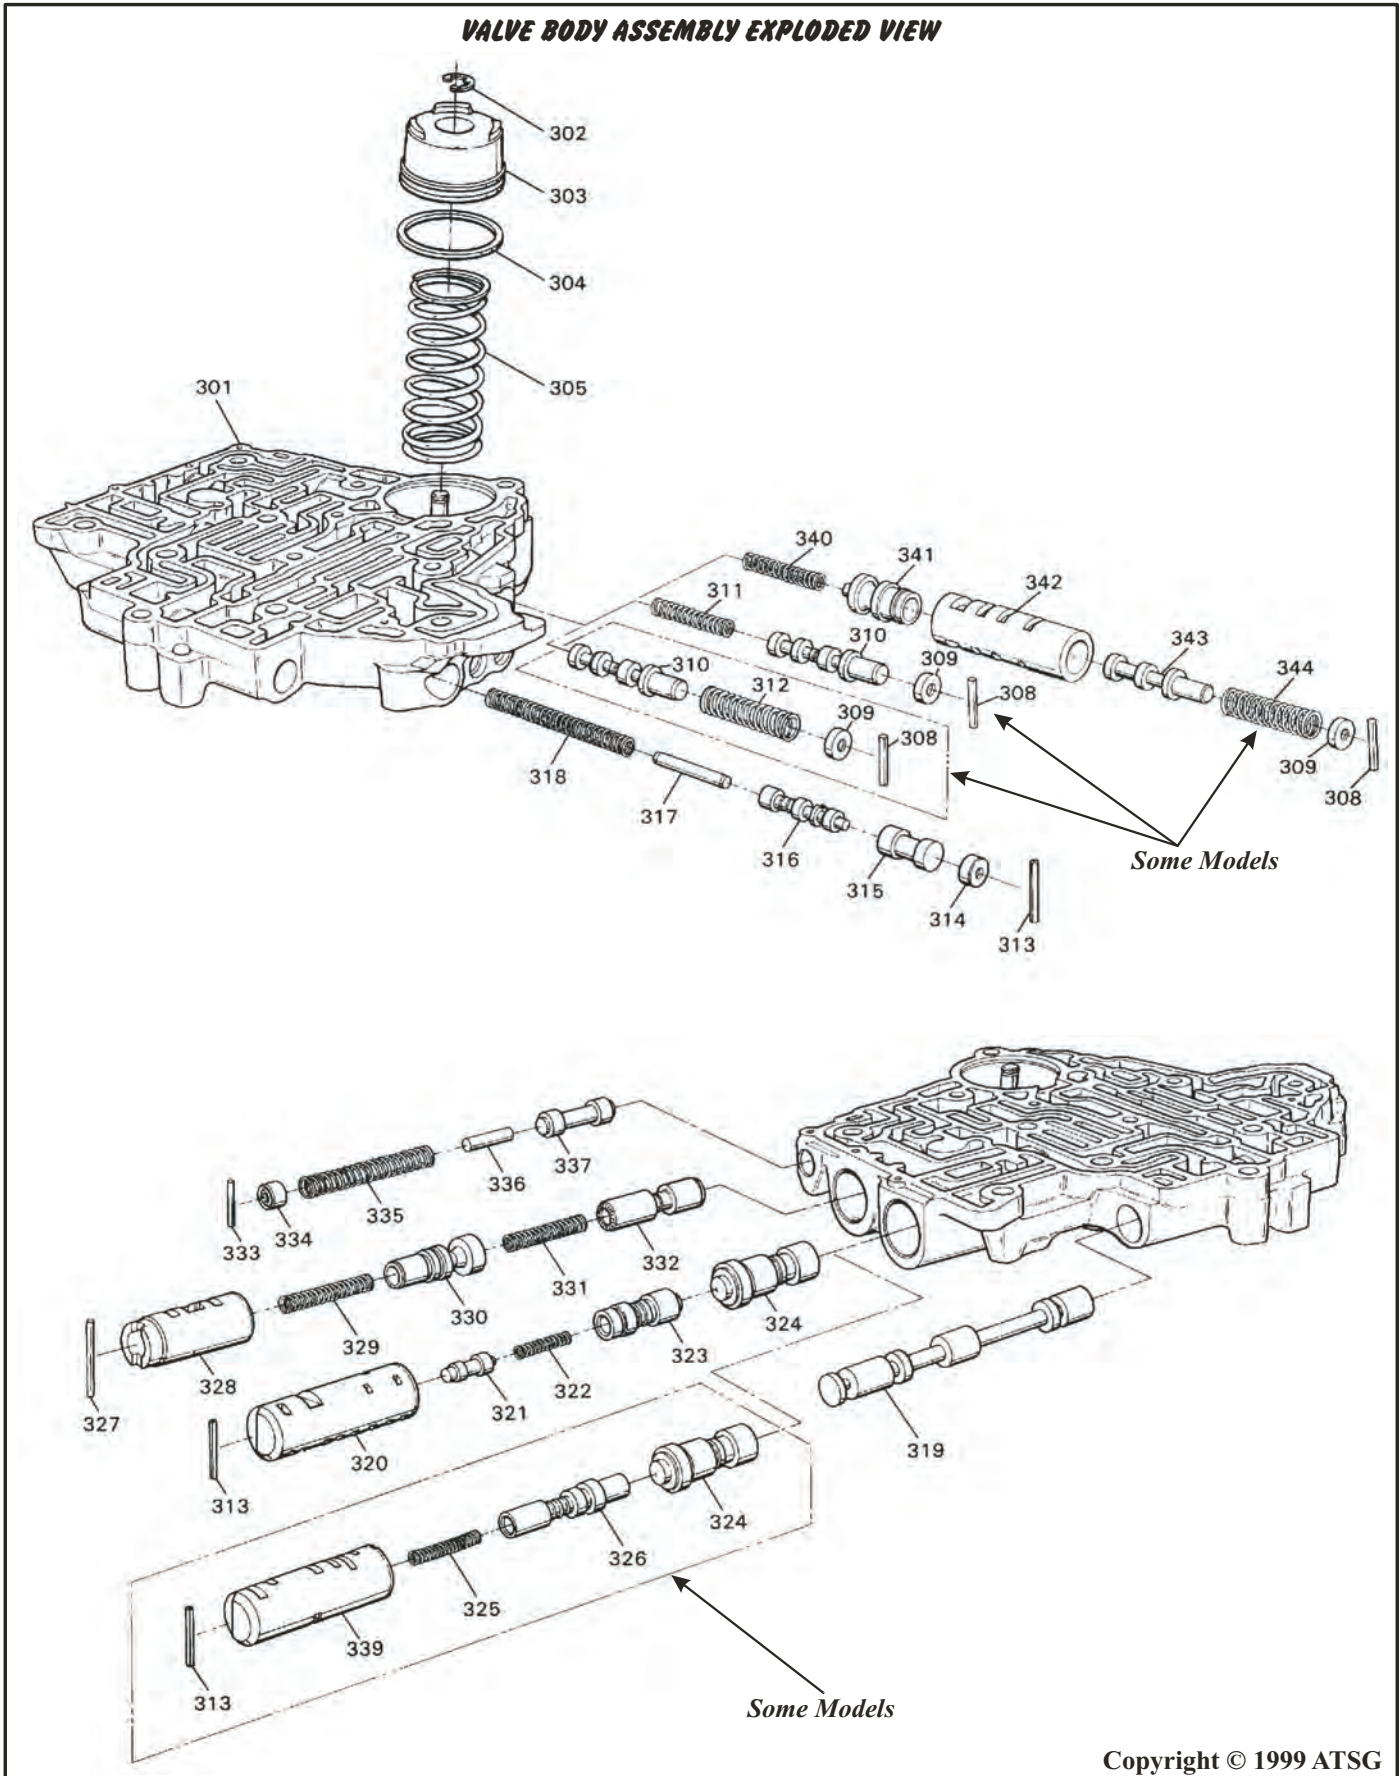

Figure 100
LEGEND FOR FIGURE 100
2. Remove and discard the 2-3 accumulator piston seal ring (See Figure 100).
3. Remove the 2-3 accumulator piston spring as shown in Figure 100.
7. Remove the valve trains one at a time and lay them out on a clean surface in the exact order that they are removed (See Figure 100).
12. Assemble the valve body components exactly as shown in Figure 100. Notice the position of the valve lands and bushing passages.
13. Notice also that we have provided you with all of the different valve line-ups for the various models that are out there (See Figure 100).
14. Install the 2-3 accumulator spring in the valve body bore, as shown in Figure 100.
15. Install the proper 2-3 accumulator piston with a new seal on piston as shown in Figure 100.
17. Install the manual valve into the manual valve bore in the valve body (See Figure 100).